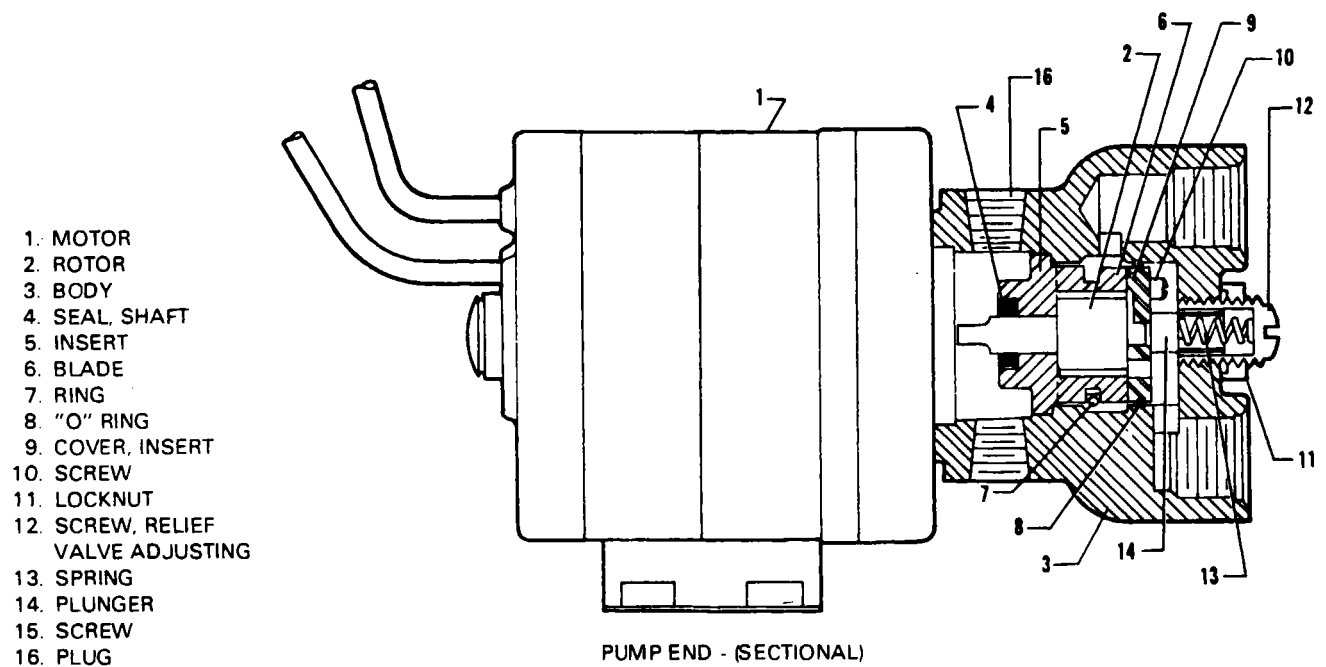

Figure 9-24. Weldon Rotary Fuel Pump
9-75. DISASSEMBLY OF FUEL PUMP. (Refer to Figure 9-24.)
- d. Insert a 3/16 inch diameter rod through the 1/2 inch tapped hole, from which the relief valve adjusting screw was removed and through the center hole in the insert cover until the rotor is contacted. Apply pressure to the rod with an arbor press to unseat and remove the pumping element from the pump housing. (Refer to Figure 9-24.)
- g. To remove the shaft seal from the insert, clamp a simple fixture having a 15/16 inch diameter hole 5/8 inch deep, in a vise (A 15/16 inch socket wrench head may be used as a temporary fixture). Place the insert into the fixture with the shaft seal end up (Refer to Figure 9-24). Using a small screwdriver inserted in the shaft hole of the seal, pry the seal from the seal well. Use extreme caution to avoid damage to the seal well area.
9-77. ASSEMBLY OF FUEL PUMP (Refer to Figure 9-24.)